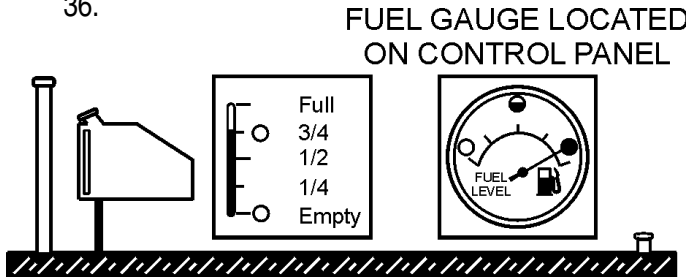

Figure 36. Full Trailer Tank
4. **NEVER overfill trailer fuel tank** – It is important to read the trailer fuel gauge when filling trailer fuel tank. **DO NOT** wait for fuel to rise in filler neck. See Figure 36.